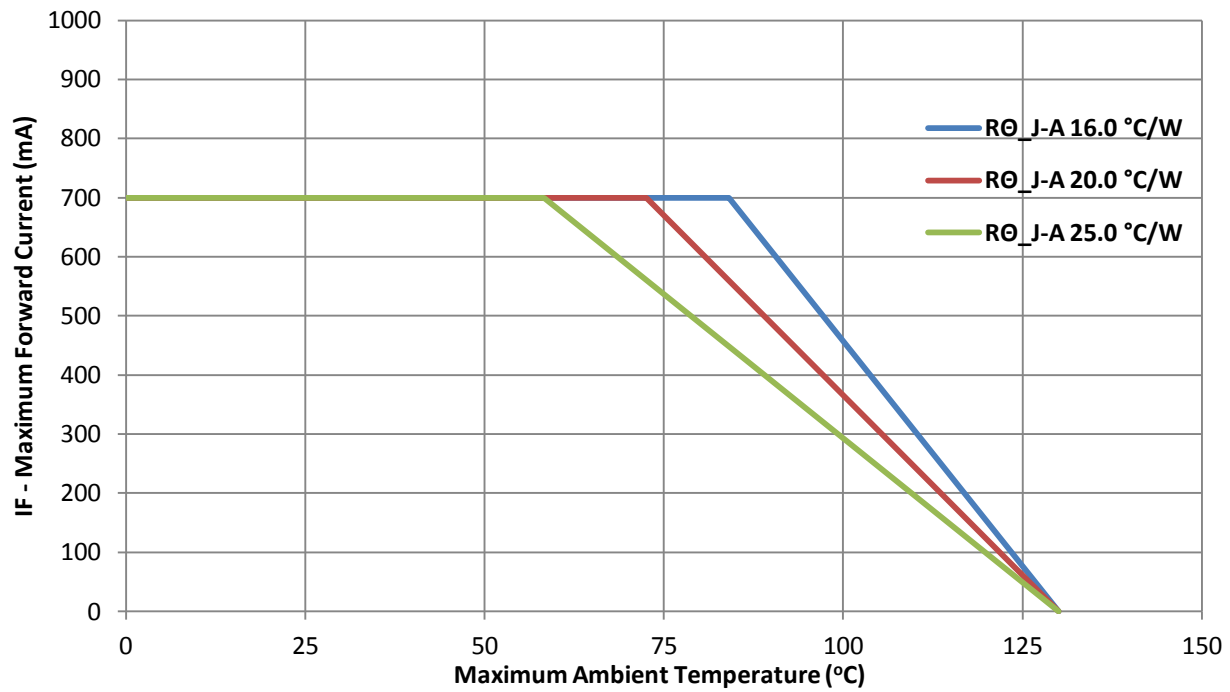

Figure 11: Maximum forward current vs. ambient temperature based on  $T_{J(MAX)} = 130^{\circ}C$
- Maximum DC forward current is determined by the overall thermal resistance and ambient temperature. Follow the curves in Figure 11 for current derating.
Notes for Figure 11: